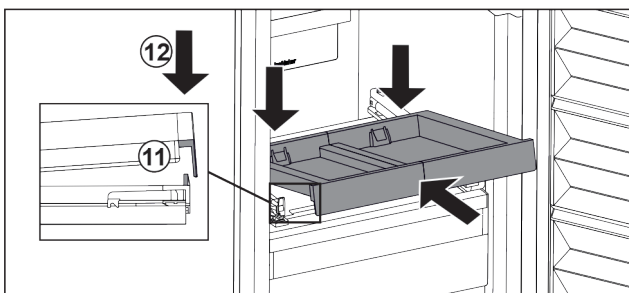

Fig. 198
- ▶ Place the pull-out board in at an angle behind the front lug. Fig. 198 (11)
- ▶ Slide in at an angle. Make sure that the stop is behind the lug on both sides. Fig. 198 (11)
- ▶ Lower the pull-out board at the front. Fig. 198 (12)